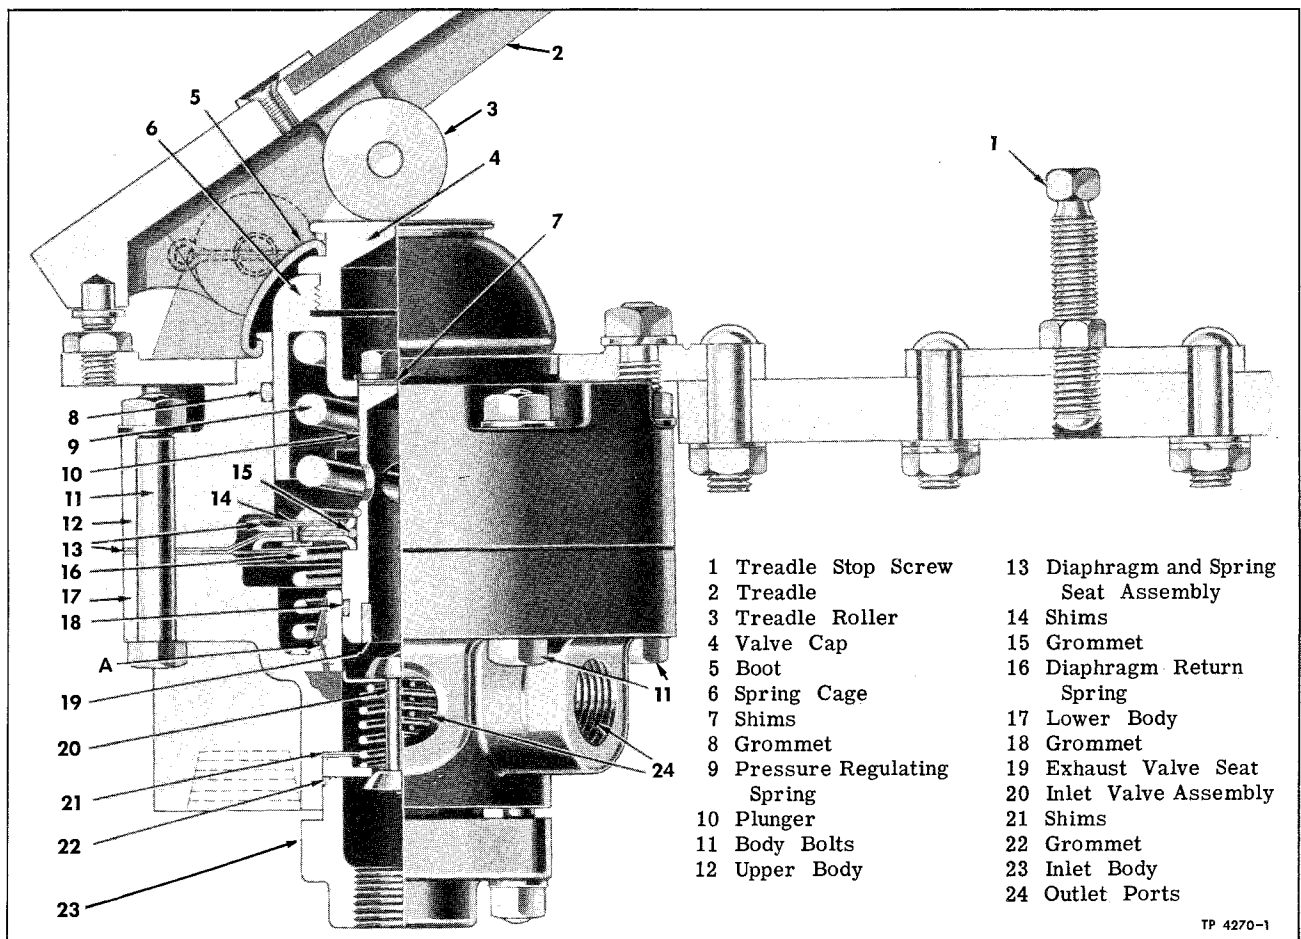

Figure 7—Brake Application Valve
Brake application valve (fig. 7) is a treadle type D-1 brake valve mounted underneath the toeboard on the left side of the vehicle. Brake treadle and roller assembly is mounted on top of the toeboard. Application valve is connected into air lines as shown in Air Line Diagram at beginning of this group.
APPLICATION VALVE OPERATION (Fig. 7)
b. Depress and hold the brake treadle in several positions between fully released and fully applied position and make sure the delivered pressure registered by the test gauge varies in accordance with the position in which the brake treadle is held. The valve must control all delivery pressures between 5 and 70 pounds; above 70 pounds, full air system pressure should be delivered. If full system pressure is not delivered, check treadle stop screw adjustment as previously directed under "Brake Adjustments" in this section. If valve does not graduate the delivered pressure properly (between 5 and 70 pounds), it is an indication that passage A (fig. 7) is restricted.
APPLICATION VALVE DISASSEMBLY (Fig. 7)
INSPECTION (Fig. 7)
REPAIR (Fig. 7)
APPLICATION VALVE ASSEMBLY (Fig. 7)
REBUILT APPLICATION VALVE (Fig. 7)Tests